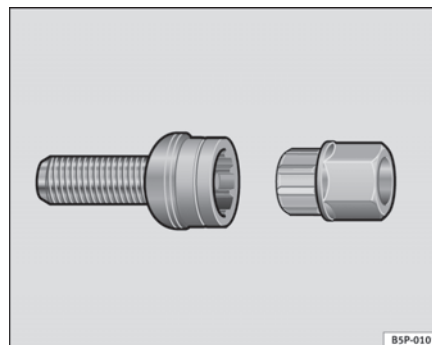

Fig. 145 Anti-theft wheel bolt
- Insert the adaptor onto the wheel bolt and push it on as far as it will go ⇒ page 210, fig. 145.